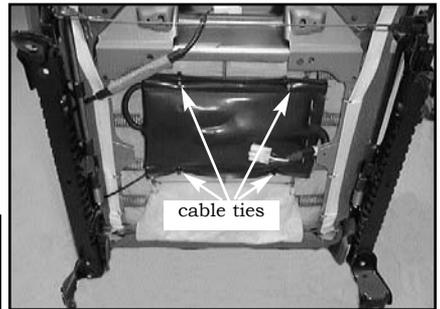

FIGURE 4
2. Mount pouch under seat and secure to seat using cable ties or ratchet fasteners where appropriate. **FIGURE 4**